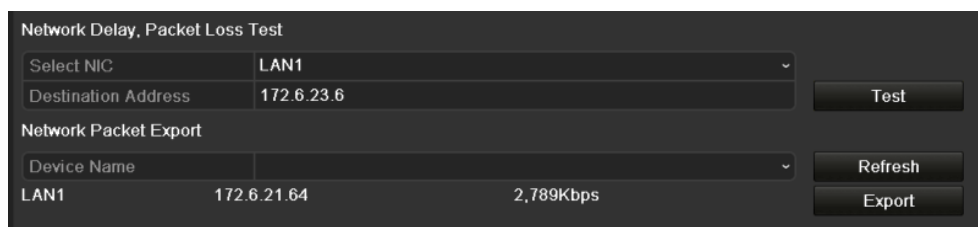

Figure 9. 32 Network Detection Interface
2. Click the **Network Detection** tab to enter the Network Detection menu, as shown in Figure 9. 32.